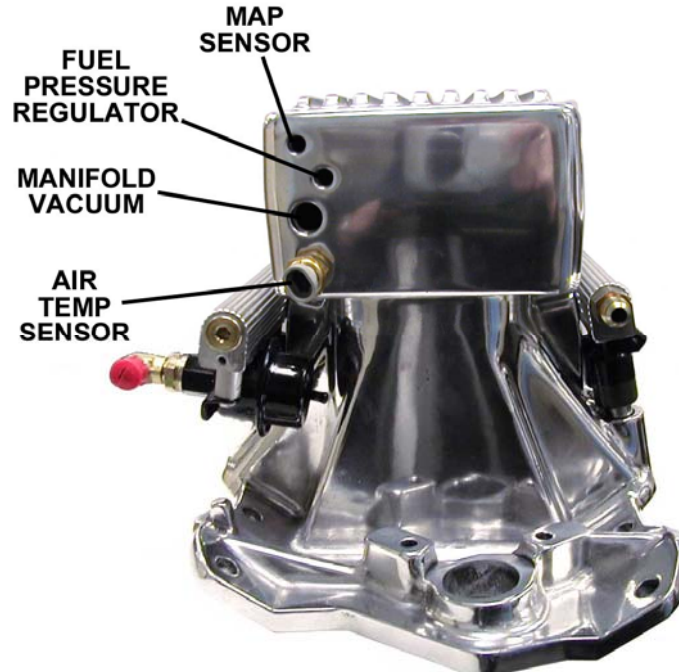

Figure 6
1. Vacuum line needs to be run from the back of the manifold to the MAP sensor and to the fuel pressure regulator. See Figure 6.